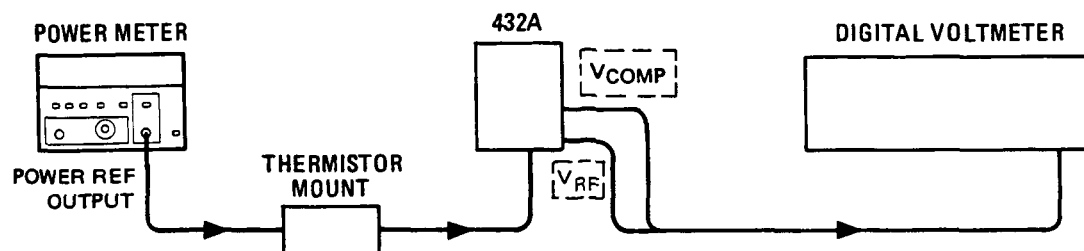

Figure 4-4. Power Reference Level Test Setup
2. Round off the DVM indication to two decimal places and record this value as the internal bridge resistance (R) of the 432A (approximately 200 ohms).
3. Connect the 432A to the Power Meter as shown in Figure 4-4.